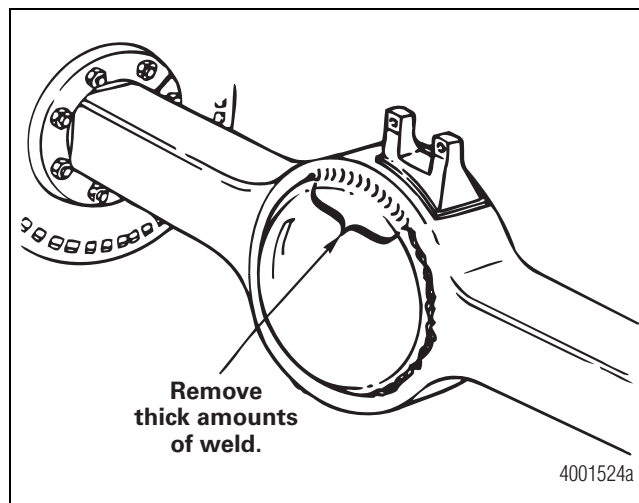

Figure 3.6
5. After gouging is completed, remove any thick amounts of weld material that remain on the housing and cover with rough grinding. Figure 3.6.